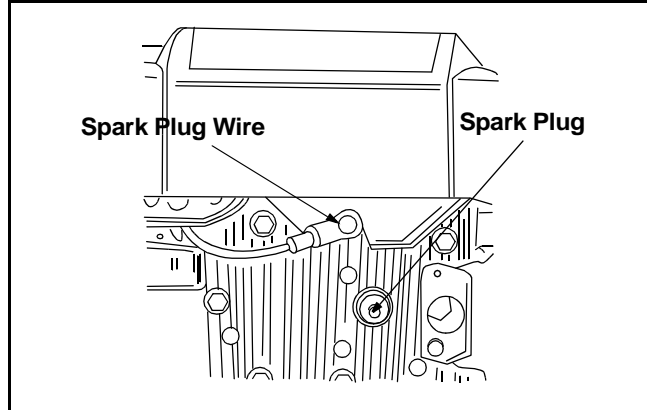

Figure 1
- Before setting up your lawn mower, disconnect the spark plug wire from the spark plug, and ground it against the engine. See Figure 1 .